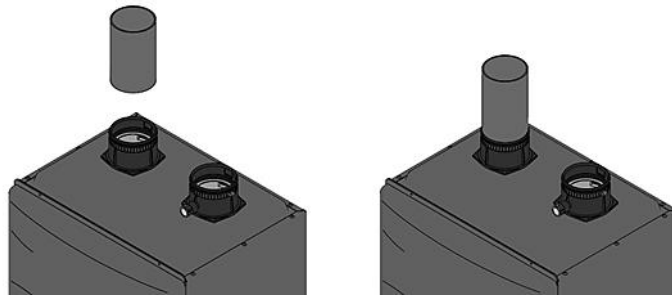

Figure 8 – Correct Installation into the Water Heater Collar
- For 2" diameter installations, install a reducing coupling in a vertical section of pipe ABOVE the pipe clamp installed on the water heater. See Figure 8.
5. For 2" installations, install the reducing coupling in a vertical section of pipe. At least a 6" length of 3" pipe MUST BE INSTALLED before reducing to 2". See Figure 8.